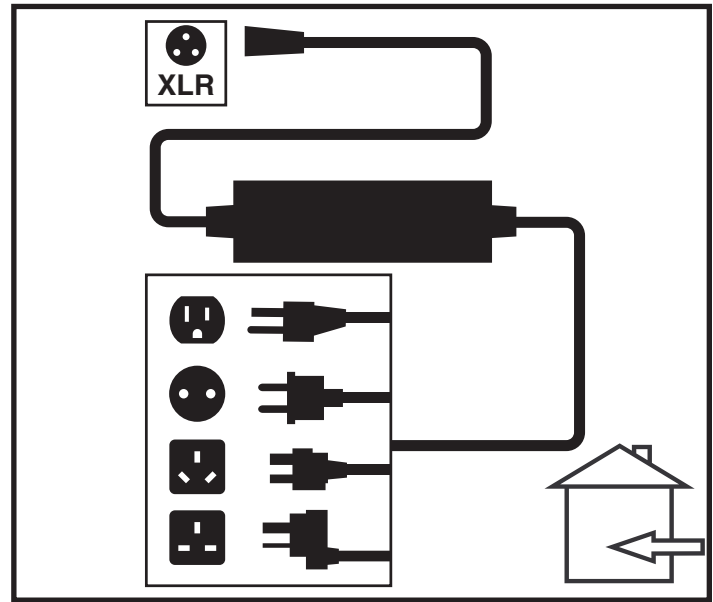

Figure 16. Battery Charging
3. Plug the off-board charger into the off-board charger/programming socket on the controller. **See figure 16.**